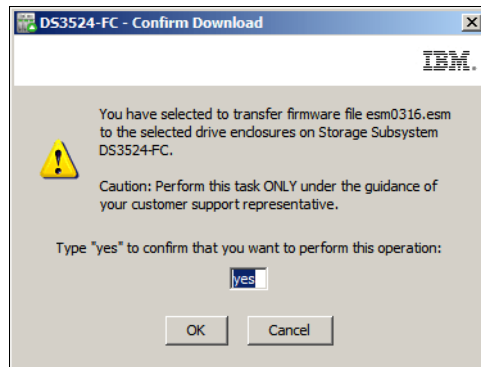

Figure 14-63 Confirm Download
3. The Confirm Download window appears. Read the information, confirm it by typing yes, and click **OK** to start the update (Figure 14-63 on page 371).